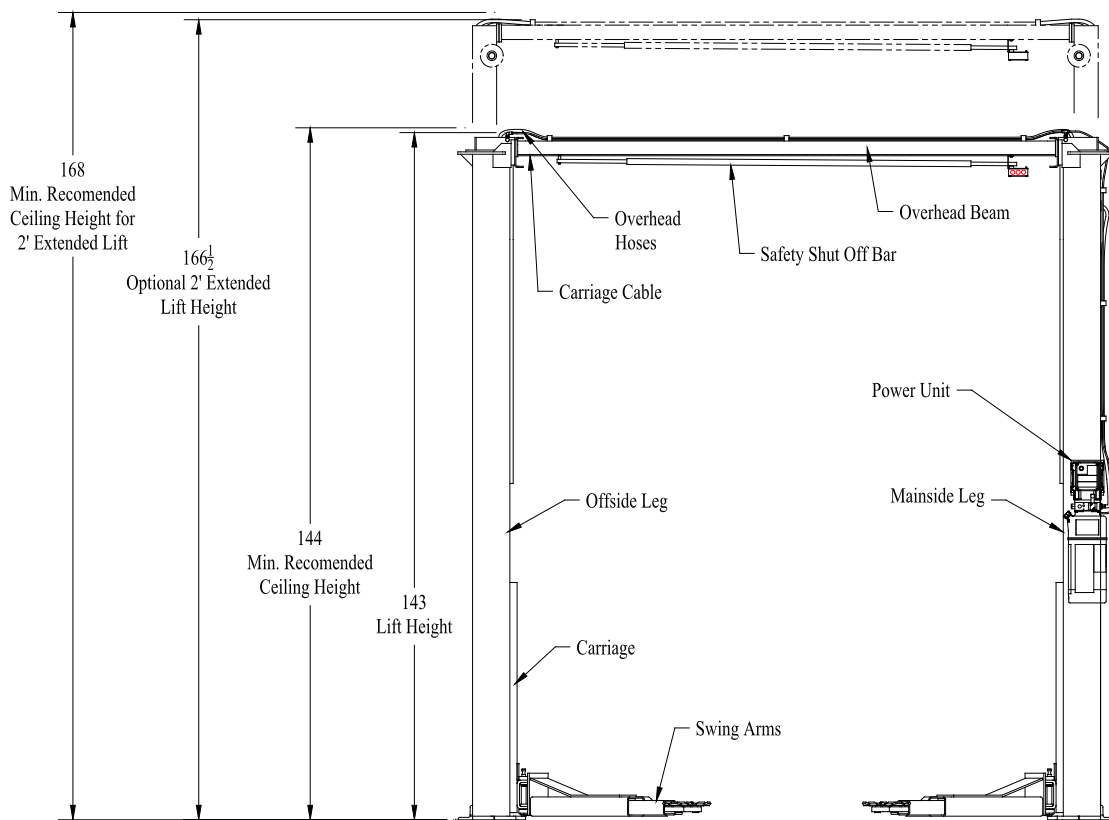

Figure 2
- A. **Raise the Mainside leg only** and position it where it is to be secured, figure 2.
- I. Raise the offside leg and position it where it is to be located, figure 2. **Do not drill holes for anchors.**